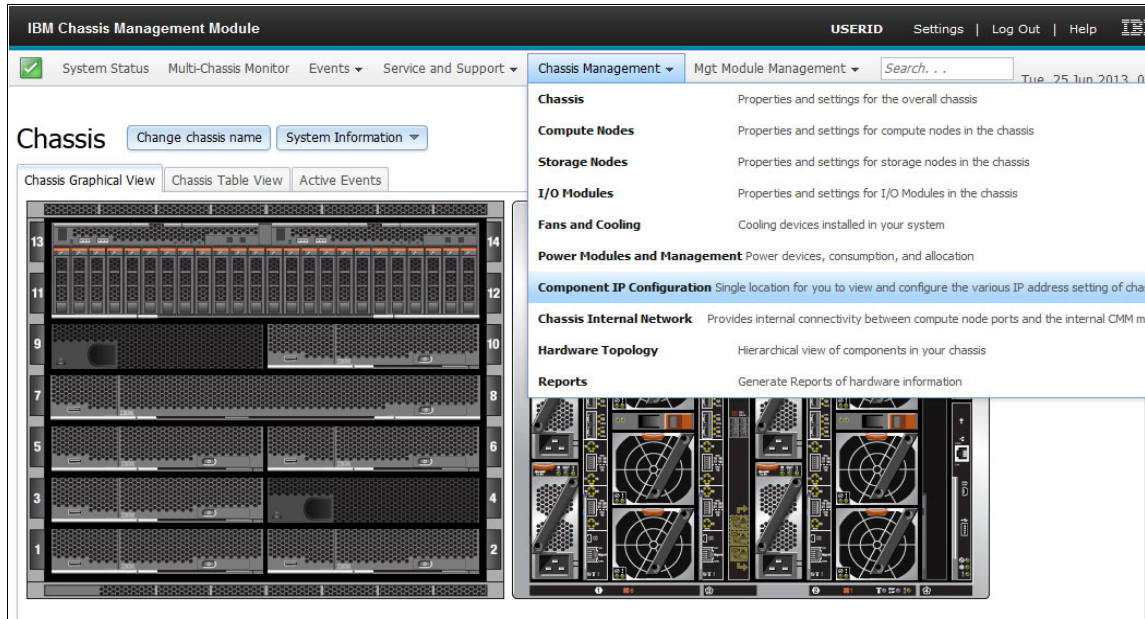

Figure 7-140 Starting the Component IP Configuration page from the CMM
1. Access the ASMI web page by using the https protocol from a browser session. The ASMI IP address was assigned from the CMM during the initial setup and configuration of the chassis. The address of the all nodes can be found by using the CMM, as shown in Figure 7-140.